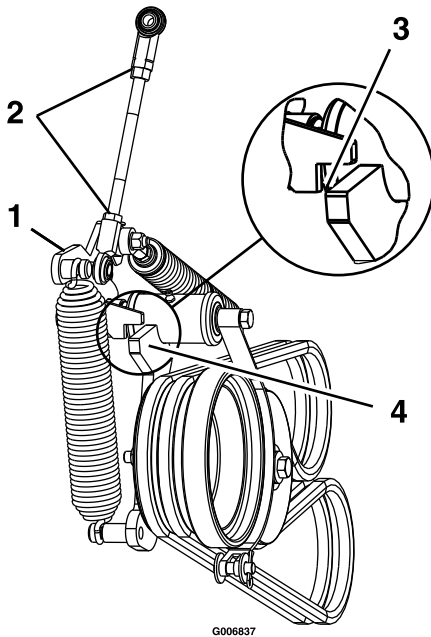

Figure 57
12. Loosen the jam nuts and adjust the linkage until the top of the idler arm is aligned with the bottom of the notch on the tension arm as shown in Figure 57.